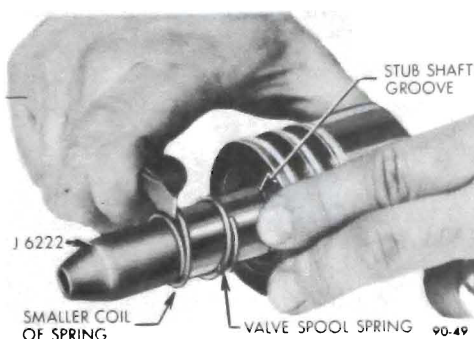

Figure 90-59 - Installing Valve Spool Spring
5. Place seal protector J-6222 over stub shaft and slide valve spool spring over stub shaft with smaller diameter coil going over end of shaft last. See Figure 90-59. Work spring on shaft with a small screwdriver until small coil of spring is seated in the stub shaft groove. Be careful not to damage surface of shaft.